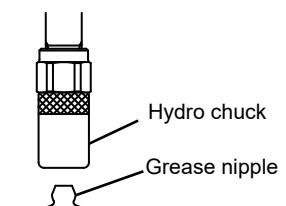

Fig. 4
- 1) Wipe the grease nipple to be used for greasing completely. After that, push the hydro chuck of the grease gun against the grease nipple to perform chucking as vertically as possible. (Fig. 4)